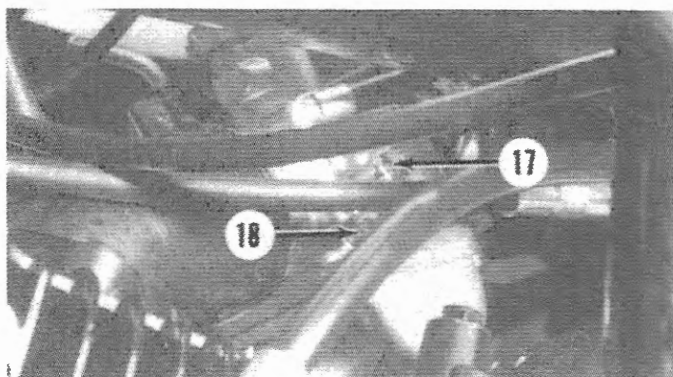

Fig. S13-6—View of installed carburetor showing location of idle speed screw (17) and idle mixture screw (18).
Initial setting of idle mixture screw (18—Fig. S13-6) is $1\frac{3}{4}$ turns out from a lightly seated position. Rotating idle mixture screw clockwise will lean mixture while rotating screw counterclockwise will richen mixture. Final adjustment should be made with engine running at normal operating temperature. Adjust idle speed screw (17) so engine idles at 1350-1450 rpm. Adjust idle mixture screw (18) so highest idle speed is achieved and readjust idle speed screw to recommended rpm. After adjusting carburetor, check throttle cable adjustment as previously described.